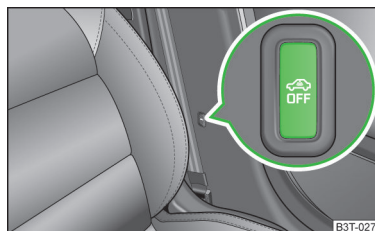

Fig. 36
- Press  » Fig. 36 on the B-column on the driver's side. The symbol lighting in the button changes  from red to orange.